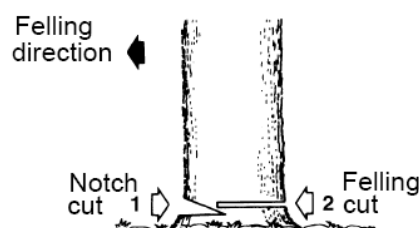

Fig. 18
2. While clearing the area around the tree, arrange a good foothold and retreat path (Fig. 18).
3. Make a notch cut one-third of the way into the tree on the felling side (Fig. 18).
4. Make a felling cut from the opposite side of the notch and at a level slightly higher than the bottom of the notch (Fig. 18)